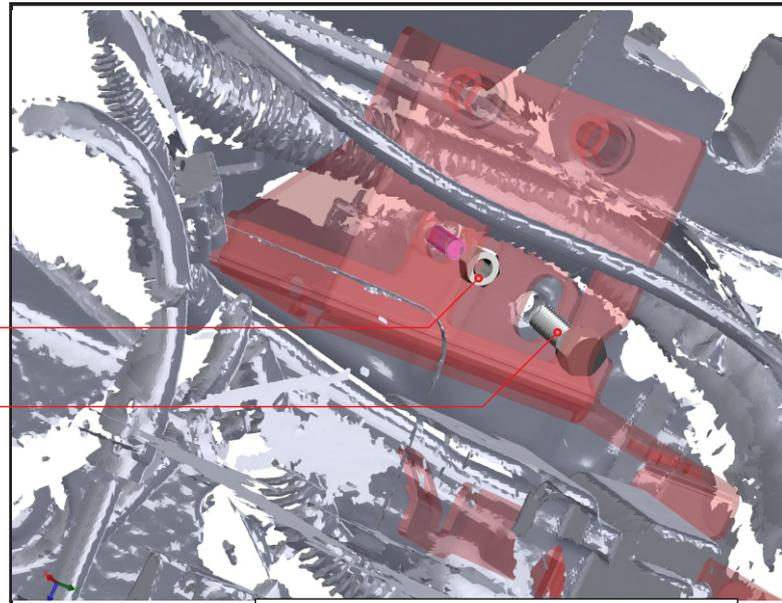

FIG. 4b FB9817FC BRACKET INSTALLATION
9. Screw in the remaining OEM M8 bolt saved from the previous steps into the firewall mounting point. Then install the supplied MS4040 M6 flange nut into the firewall stud as shown in Fig. 4b.